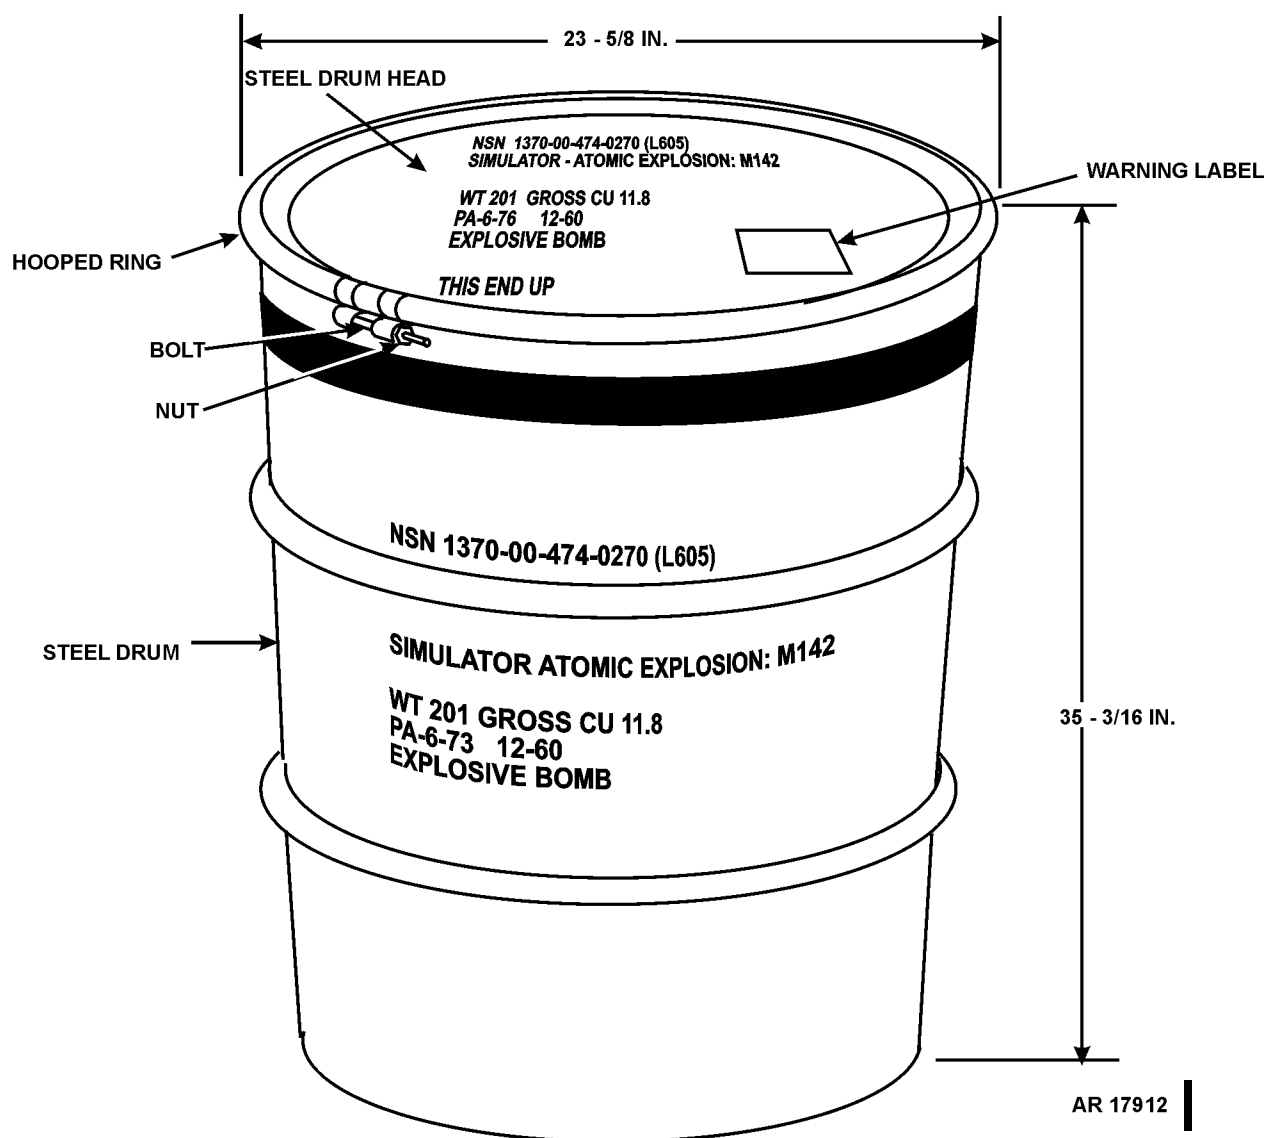

Figure 2-1. Atomic Explosion Simulator M142.
c. The following information must be legible on each box and on steel drum of M142 Atomic Explosion Simulator (see fig. 2-1).
- (1) National Stock Number (NSN).
- (2) Department of Defense Identification Code (DODIC) (repeated on ends of box).
- (3) Department of Transportation (DOT) designation.
- (4) Quantity.
- (5) Nomenclature.
- (6) Lot number (repeated on ends of box).
- (7) Month and year loaded.
- (8) Gross weight.
- (9) Cubical displacement.